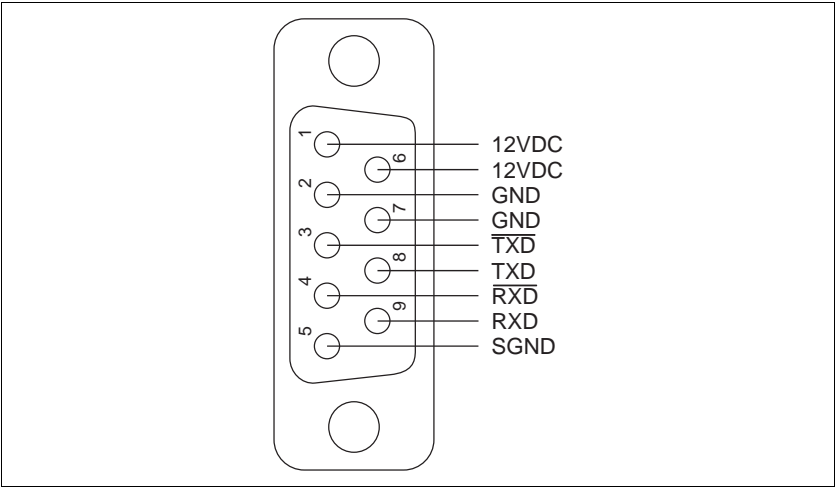

Fig. 2-18 Interface connector – device end
1. Solder the litz wires to the connector as illustrated in fig. 2-18.